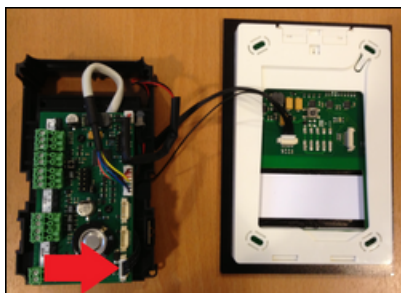

Figure 28
5. On the main control unit, use the connector marked with the arrow in Figure 28 to connect with the access panel.